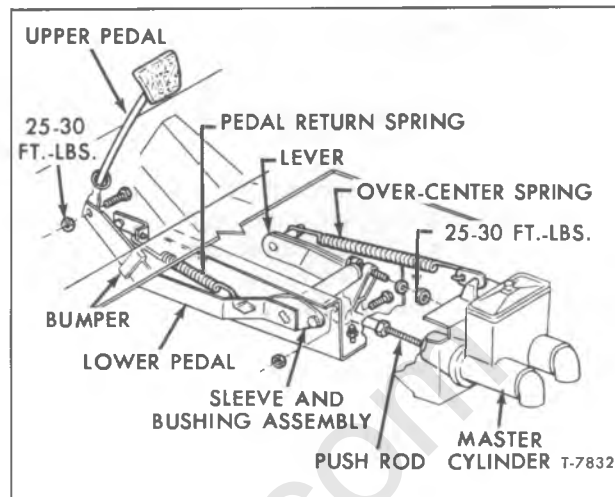

Figure 12—Clutch Pedal and Linkage ("TE" and "TS" Models)
The master cylinder on Steel Tilt Models is bracket-mounted below cab flooring as shown in figure 12. Access to pedal linkage for checking and adjusting purposes is made when cab is tilted completely forward. However, when checking and replenishing fluid in master cylinder, the cab must be in its lowered or operating position.
(Refer to Figure 12)
REMOVAL (Refer to Figs. 12 and 13)
INSTALLATION (Refer to Figs. 12 and 13)
3. Slide the lower pedal and shaft assembly through the sleeve, through the spacer, and into the partly serrated hole of the pedal shaft lever. Make sure pedal shaft lever is positioned as shown in figure 12.
IMPORTANT: Be sure bolt is inserted in direction shown in figure 12. Tighten nut to 25-30 foot-pounds torque.